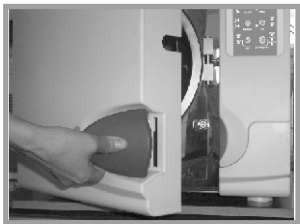

Fig5-4
5.2.5 After the instruments are loaded, you may close and lock the chamber door by turning the door knob clockwise to it is locking position. The “ready” indication light goes on. (Fig 5-4 5-5 5-6)